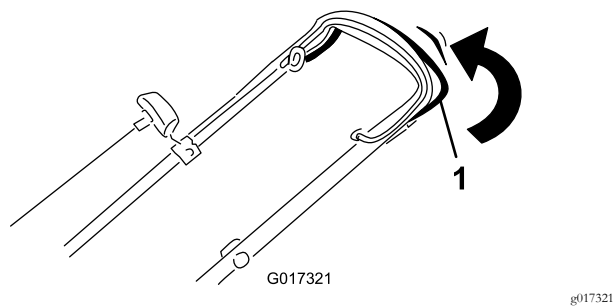

Figure 19
- **To engage the self-propel drive:** Squeeze the self-propel-drive bar against the handle and hold it (Figure 19).